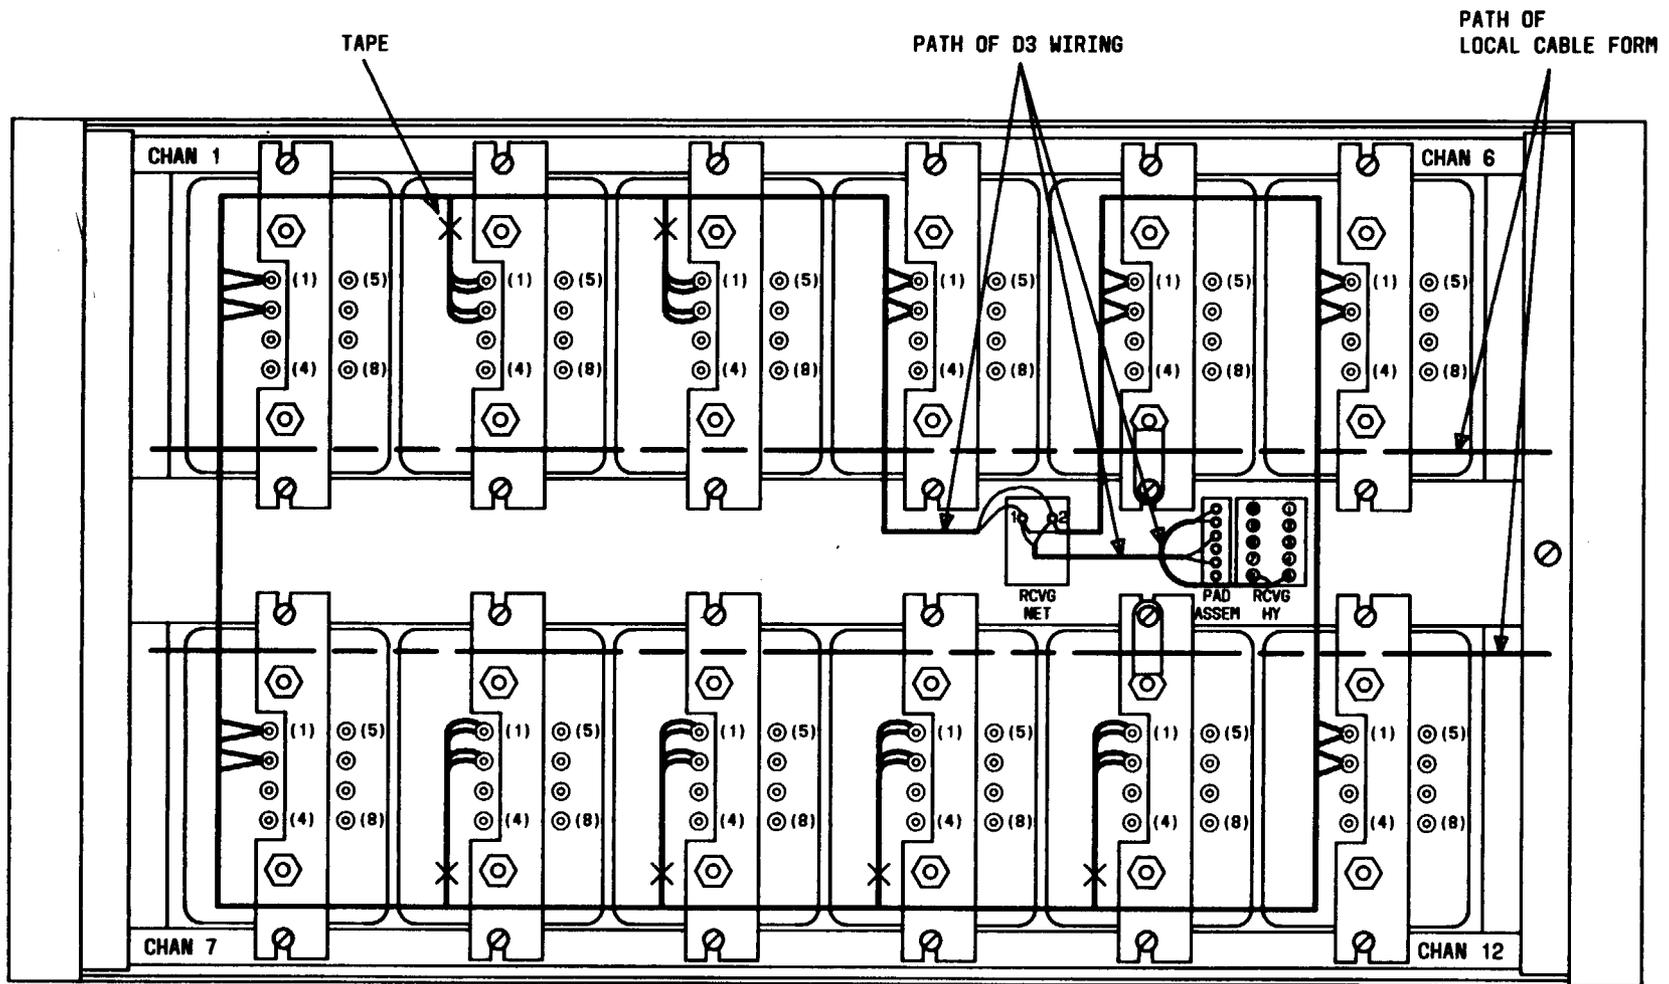

Fig. 14—Path of Receiving High-Frequency Leads in A5 Channel Bank (Banks Manufactured After October 1, 1961)
| 16 | <p data-bbox="316 451 1088 480">If the requirement of Step 13 was not met for some channels,</p> <ol style="list-style-type: none"><li data-bbox="349 514 1485 598">(a) Observe whether or not the type 561 channel filter associated with all channels having excessive intrachannel crosstalk has a star imprinted between, and slightly to the left of, Terminals 2 and 3 of the filter.<li data-bbox="349 630 1485 1648">(b) If any filter does not have a star imprint, replace it with a starred unit as follows:<ol style="list-style-type: none"><li data-bbox="381 682 1485 745">(1) Unsolder all leads connected to Terminals 1 and 2 of all unstarred filters; then, cut these leads back to the point where they enter the cable form.<li data-bbox="381 777 1485 892">(2) Unsolder the three pairs of twisted leads connected to Terminals 1 and 2 of the RCVG NET; then, unsolder the pair that connects to the ED-50077-30 pad assembly and remove this pair from the cable form. Cut back the other two pairs to the point where they enter the cable form.<li data-bbox="381 924 1485 987">(3) Unsolder the pair of leads connected to Terminals 5 and 6 of the RCVG HY; then, unsolder this pair from the ED-50077-30 pad assembly and remove it from the cable form.<li data-bbox="381 1018 1485 1081">(4) Remove all filters not having a star imprint and replace each with the type having a star imprint.<li data-bbox="381 1113 1485 1291">(5) Connect and solder a length of 24-gauge, twisted-pair wire from Terminals 1 and 2 of the RCVG NET to Terminals 1 and 2 of each of the 12 channel filters in the bank. Connect Terminals 1 and 2 of the last filter in the string to Terminals 1 and 2 of the RCVG NET to form a closed loop as shown in Fig. 14. Be sure that all No. 1 terminals in the loop are connected to one lead of the pair and all No. 2 terminals are connected to the other lead.<li data-bbox="381 1323 1485 1648">(6) Complete the D3 wiring illustrated in Fig. 14 by connecting:<ol style="list-style-type: none"><li data-bbox="430 1375 1485 1438">(a) Terminals 1 and 2 of the RCVG NET to Terminals 3 and 5 of the ED-50077-30 pad assembly.<li data-bbox="430 1470 1485 1533">(b) Terminals 1 and 2 of the pad assembly to Terminals 5 and 6 of the RCVG HY. Form the leads and tape as shown in Fig. 14.<li data-bbox="430 1564 1226 1596">(c) Repeat from Step 1 for all channels in the bank under test.<li data-bbox="430 1606 1226 1648">(d) Repeat Charts 1 through 6 for the channel bank under test. |